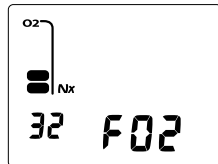

Fig. 43 - SURF ALT 1
**SURF ALT 1**, information includes (Fig. 43):